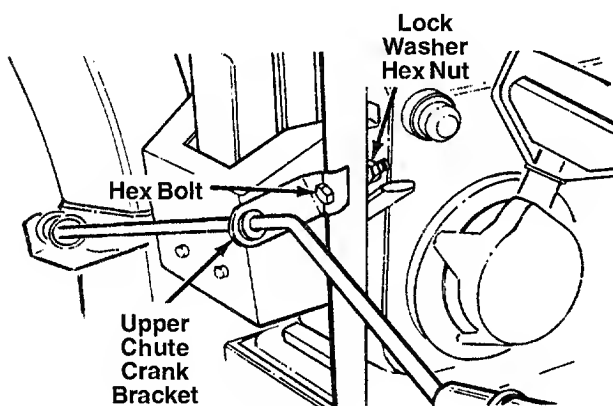

FIGURE 7
- Insert 5/16 x 1/2" hex bolt through the upper chute crank bracket which is assembled on the chute crank. See figure 7.